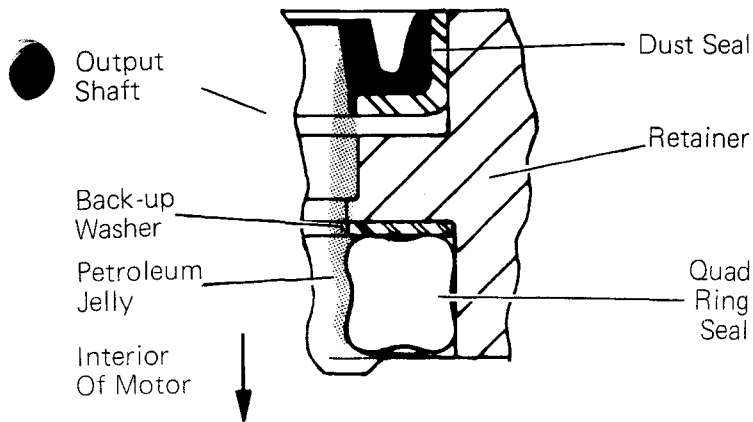

Figure 13
**30** Clean retainer to remove all loose metallic chips, particles, dirt or other contamination. Install dust seal in retainer as shown in Fig. 13. Press the seal into place carefully, using a tool which will provide proper guiding and positioning to eliminate damage to the rubber portion or distortion of the metal container.
**34** Apply petroleum jelly to inside diameter of dust seal and quad ring seal, see Fig. 13. To prevent seal damage, install retainer over shaft with a twisting motion.